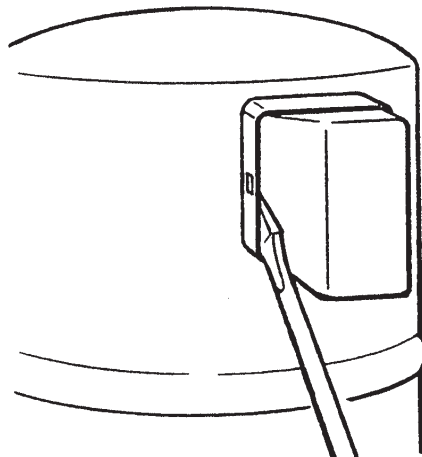

Figure 28. Compressor Terminal Cover
2. Remove the compressor terminal cover by inserting a standard screwdriver between the terminal cover and compressor cover frame: then, gently pry off from the right side, then the left (Figure 28).